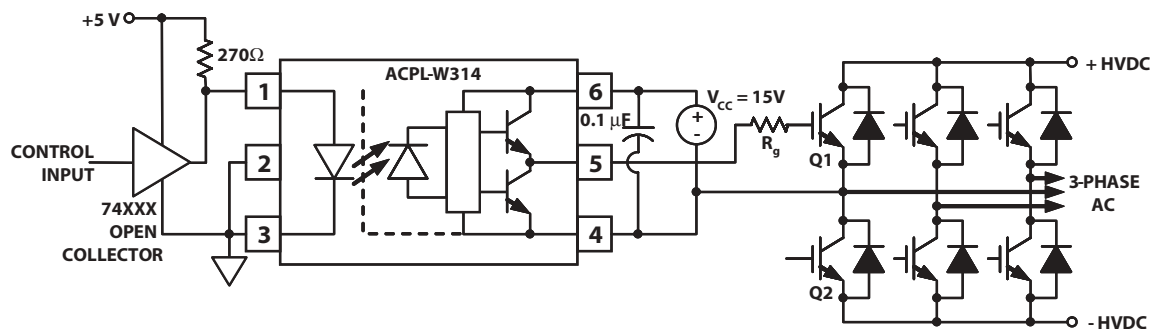
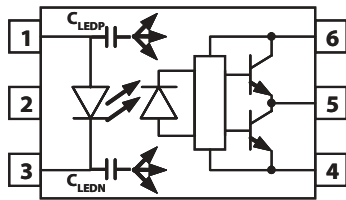
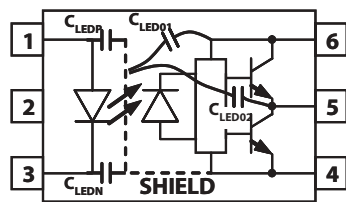
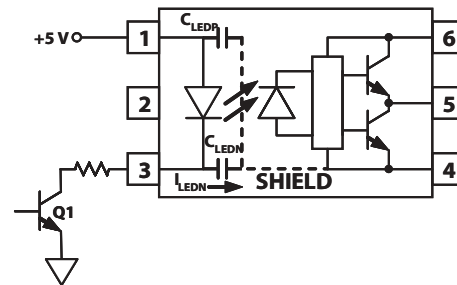

Figure 17. Recommended LED Drive and Application Circuit for ACPL-W302
Figure 19. Optocoupler Input to Output Capacitance Model for Unshielded Optocouplers.
Figure 20. Optocoupler Input to Output Capacitance Model for Shielded Optocouplers.
Figure 22. Not Recommended Open Collector Drive Circuit.
To keep the IGBT firmly off, the ACPL-W302 has a very low maximum V_{OL} specification of 1.0 V. Minimizing R_g and the lead inductance from the ACPL-W302 to the IGBT gate and emitter (possibly by mounting the ACPL-W302 on a small PC board directly above the IGBT) can eliminate the need for negative IGBT gate drive in many applications as shown in Figure 17. Care should be taken with such a PC board design to avoid routing the IGBT collector or emitter traces close to the ACPL-W302 input as this can result in unwanted coupling of transient signals into the input of ACPL-W302 and degrade performance. (If the IGBT drain must be routed near the ACPL-W302 input, then the LED should be reverse biased when in the off state, to prevent the transient signals coupled from the IGBT drain from turning on the ACPL-W302.
Step 1: Calculate R_g minimum from the I_{OL} peak specification. The IGBT and R_g in Figure 17 can be analyzed as a simple RC circuit with a voltage supplied by the ACPL-W302.
where $K_{ICC} \cdot Q_g \cdot f$ is the increase in I_{CC} due to switching and K_{ICC} is a constant of 0.001 mA/(nC*kHz). For the circuit in Figure 17 with I_F (worst case) = 10 mA, R_g = 57.5 Ω , Max Duty Cycle = 80%, Q_g = 100 nC, f = 20 kHz and T_{AMAX} = 85°C:
Without a detector shield, the dominant cause of optocoupler CMR failure is capacitive coupling from the input side of the optocoupler, through the package, to the detector IC as shown in Figure 19. The ACPL-W302 improves CMR performance by using a detector IC with an optically transparent Faraday shield, which diverts the capacitively coupled current away from the sensitive IC circuitry. However, this shield does not eliminate the capacitive coupling between the LED and optocoupler pins 5-8 as shown in Figure 20. This capacitive coupling causes perturbations in the LED current during common mode transients and becomes the major source of CMR failures for a shielded optocoupler. The main design objective of a high CMR LED drive circuit becomes keeping the LED in the proper state (on or off) during common mode transients. For example, the recommended application circuit (Figure 17), can achieve 10 kV/ μ s CMR while minimizing component complexity.
The open collector drive circuit, shown in Figure 22, can not keep the LED off during a $+dV_{CM}/dt$ transient, since all the current flowing through C_{LEDN} must be supplied by the LED, and it is not recommended for applications requiring ultra high CMR_L performance. The alternative drive circuit which like the recommended application circuit (Figure 17), does achieve ultra high CMR performance by shunting the LED in the off state.